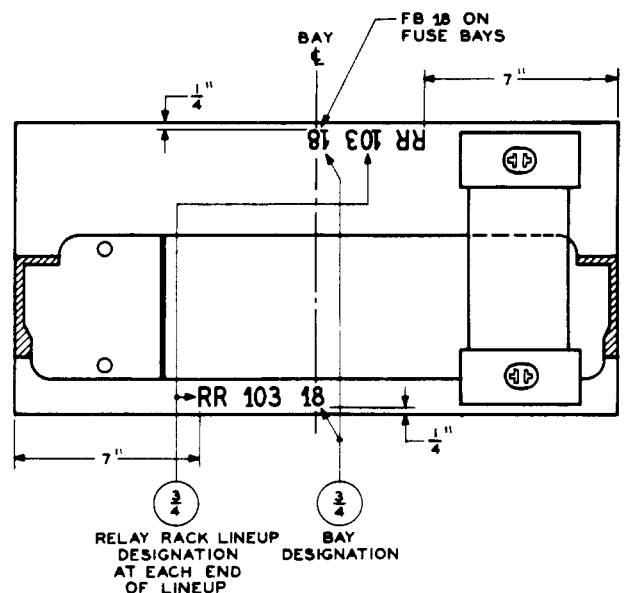

Fig. 34 – Bay and Relay Rack Line-up Designations for Bulb-angle Relay Rack Bays
2.49 The bay designation shall be centered on the top surface of the frame base, both front and rear, as shown in Fig. 34.
2.50 When relay rack line-up numbers (RR 103) are used, stamp in line with the bay designation at each end of each relay rack line-up, on both front and rear, as shown in Fig. 34.
2.59 On bays with a sheet metal base, the bay designation shall be centered on the top surface of the frame base, front and rear, as shown in Fig. 34. However, when other bays in